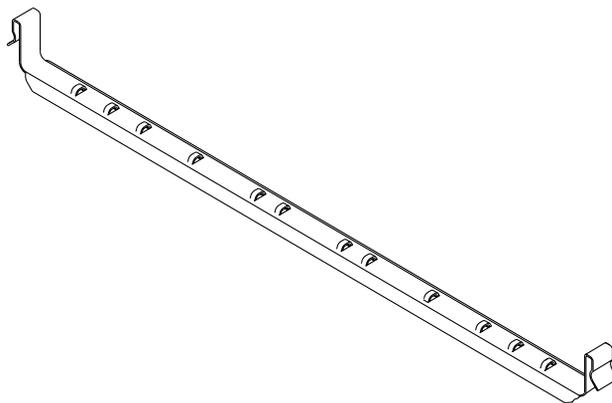

FIGURE 3-10 Cable Management Bracket
- 18. Hook the cable management bracket (FIGURE 3-10) over the mounting brackets behind the array.**